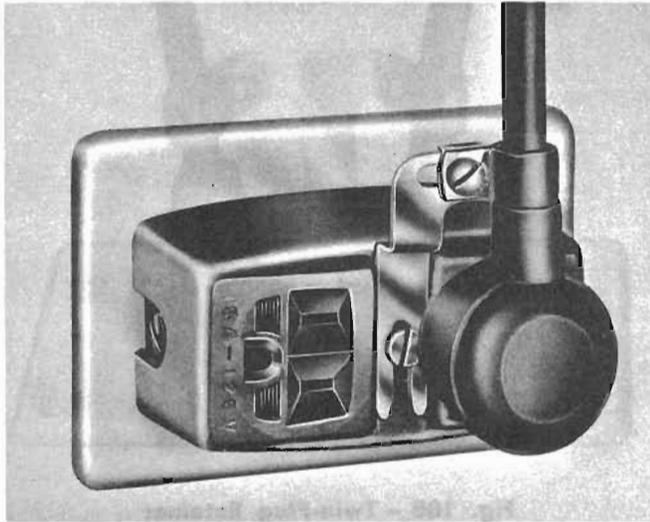

Fig. 10D — Single-Plug Retainer (Used with BL-12433 Adapter)
11.06 Install the single-plug retainer assemblies with the BL-12433 adapter as shown in Fig. 10D.